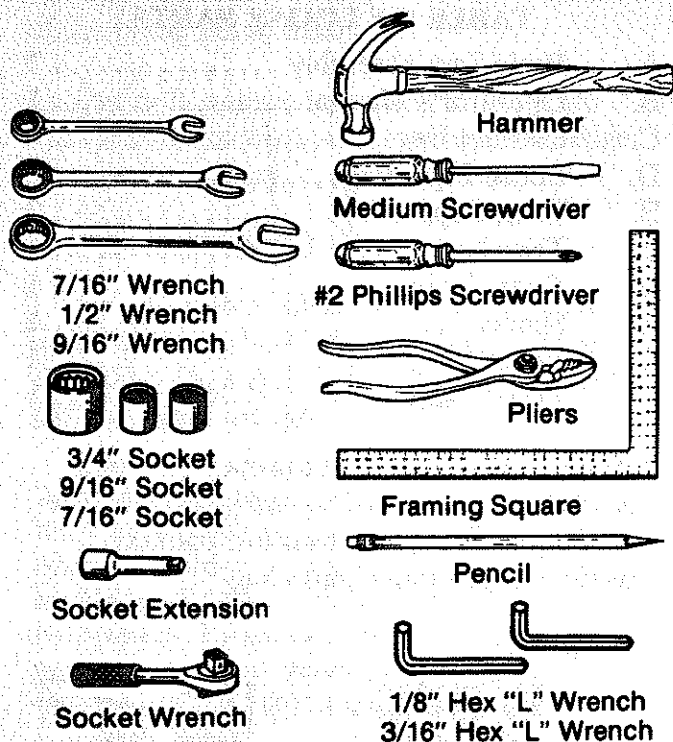

Fig. 12 -Tools Required
3. Identify the tools required for assembly. Make sure that you have all of the tools you will need. (Figure 12)